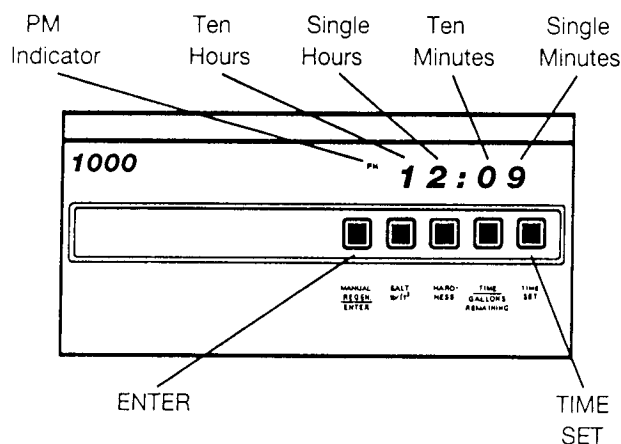

Figure 8
A. Push the **TIME SET** button (Figure 8).